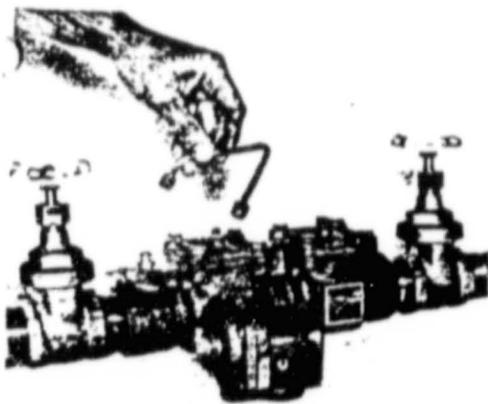

Figure 15
2. Loosen nuts on ends of $\frac{1}{4}$ " tubing and remove tubing. (Figure 15.)